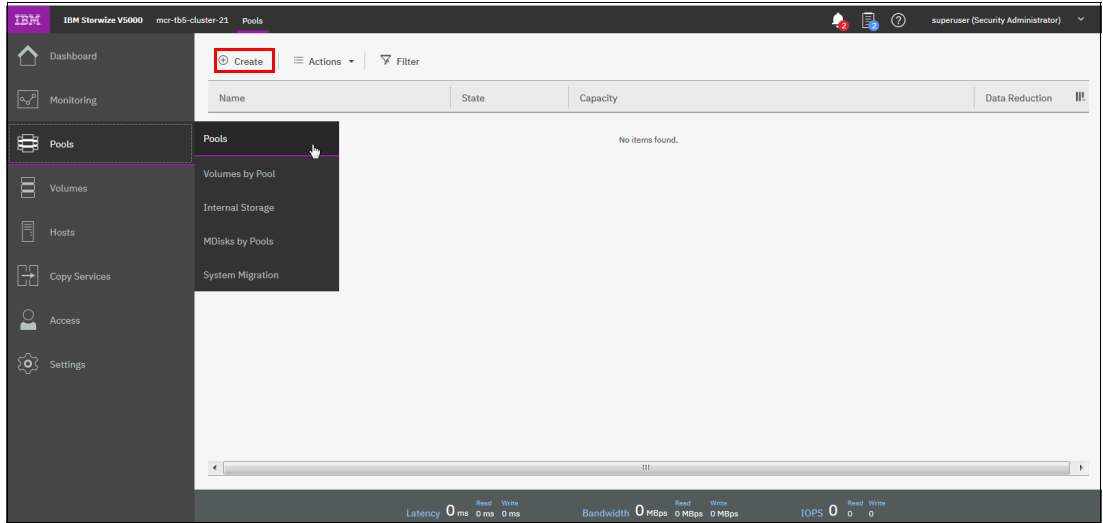

Figure 4-18 **Create** button on Pools window
- Browse to **Pools** → **Pools** and click **Create**, as shown in Figure 4-18.